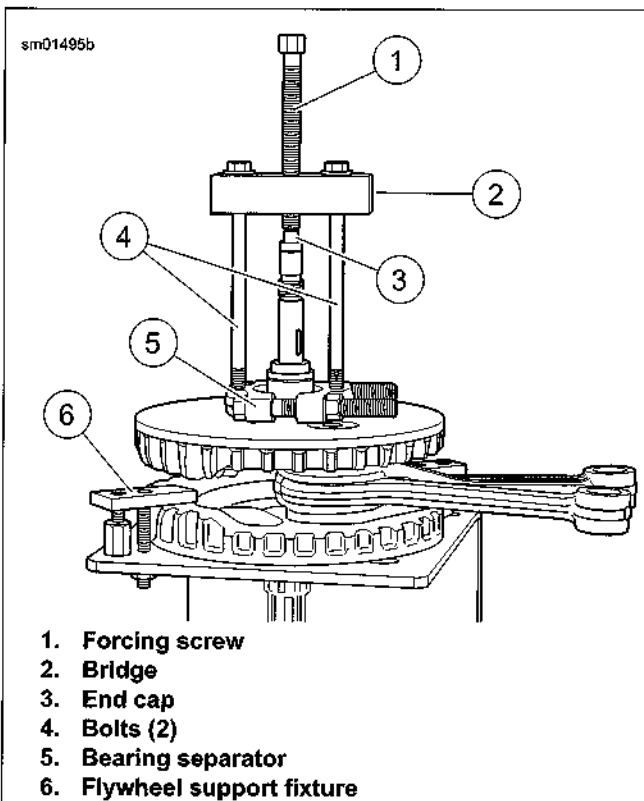

Figure 3-96. Pulling Pinion Shaft Inner Bearing
See Figure 3-96. To remove pinion shaft inner race, use BEARING SEPARATOR (Part No. Snap-on Tools Stock No. CJ950), three items from END CAP (Part No. HD-34902-7), BRIDGE (Part No. J-7830-5) and FORCING SCREW (Part No. J-21686-12), and two bolts. Apply heat to race to aid removal.
10. See Figure 3-96. Pull inner race from pinion shaft using BEARING SEPARATOR (Part No. Snap-on Tools Stock No. CJ950), three items from END CAP (Part No. HD-34902-7), BRIDGE (Part No. J-7830-5) and FORCING SCREW (Part No. J-21686-12), and two bolts. Apply heat to race to aid removal.